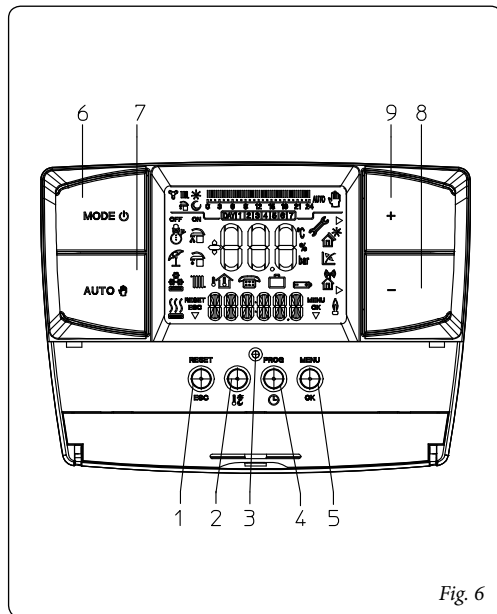

Fig. 6
RESET ESC 	Description of functioning of the button (1 fig. 6) - Reset, or esc
Indicates that it is possible to modify a parameter via the two buttons (8 and 9 fig. 6)
MENU OK 	Description of functioning of the button (5 fig. 6) - Menu or Ok
By pressing the main selector button (ref. 6 fig. 6) the following functions can be selected: